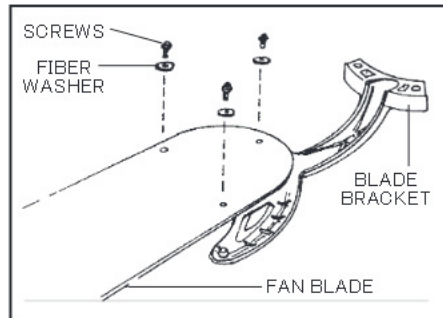

FIG. 15
**Step 1.** Attach the fan blade to the blade bracket using the screws and the fiber washers provided. Tighten screws securely. Repeat for remaining blades. (Fig. 15)